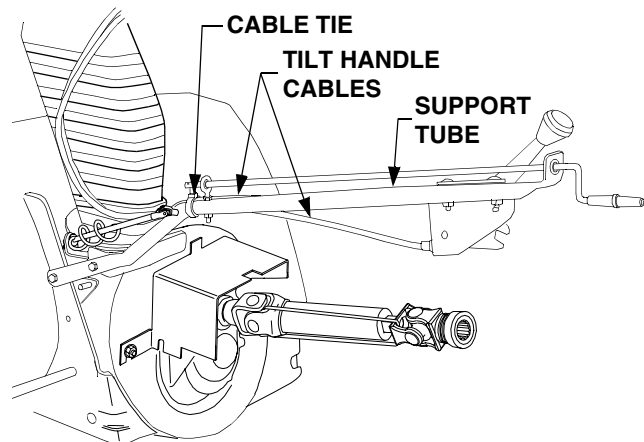

Figure 4
3. Secure the tilt handle cables (C) to the inside of the support tube (D) with the cable tie (5). See Figure 4. Cut excess length from the cable tie.